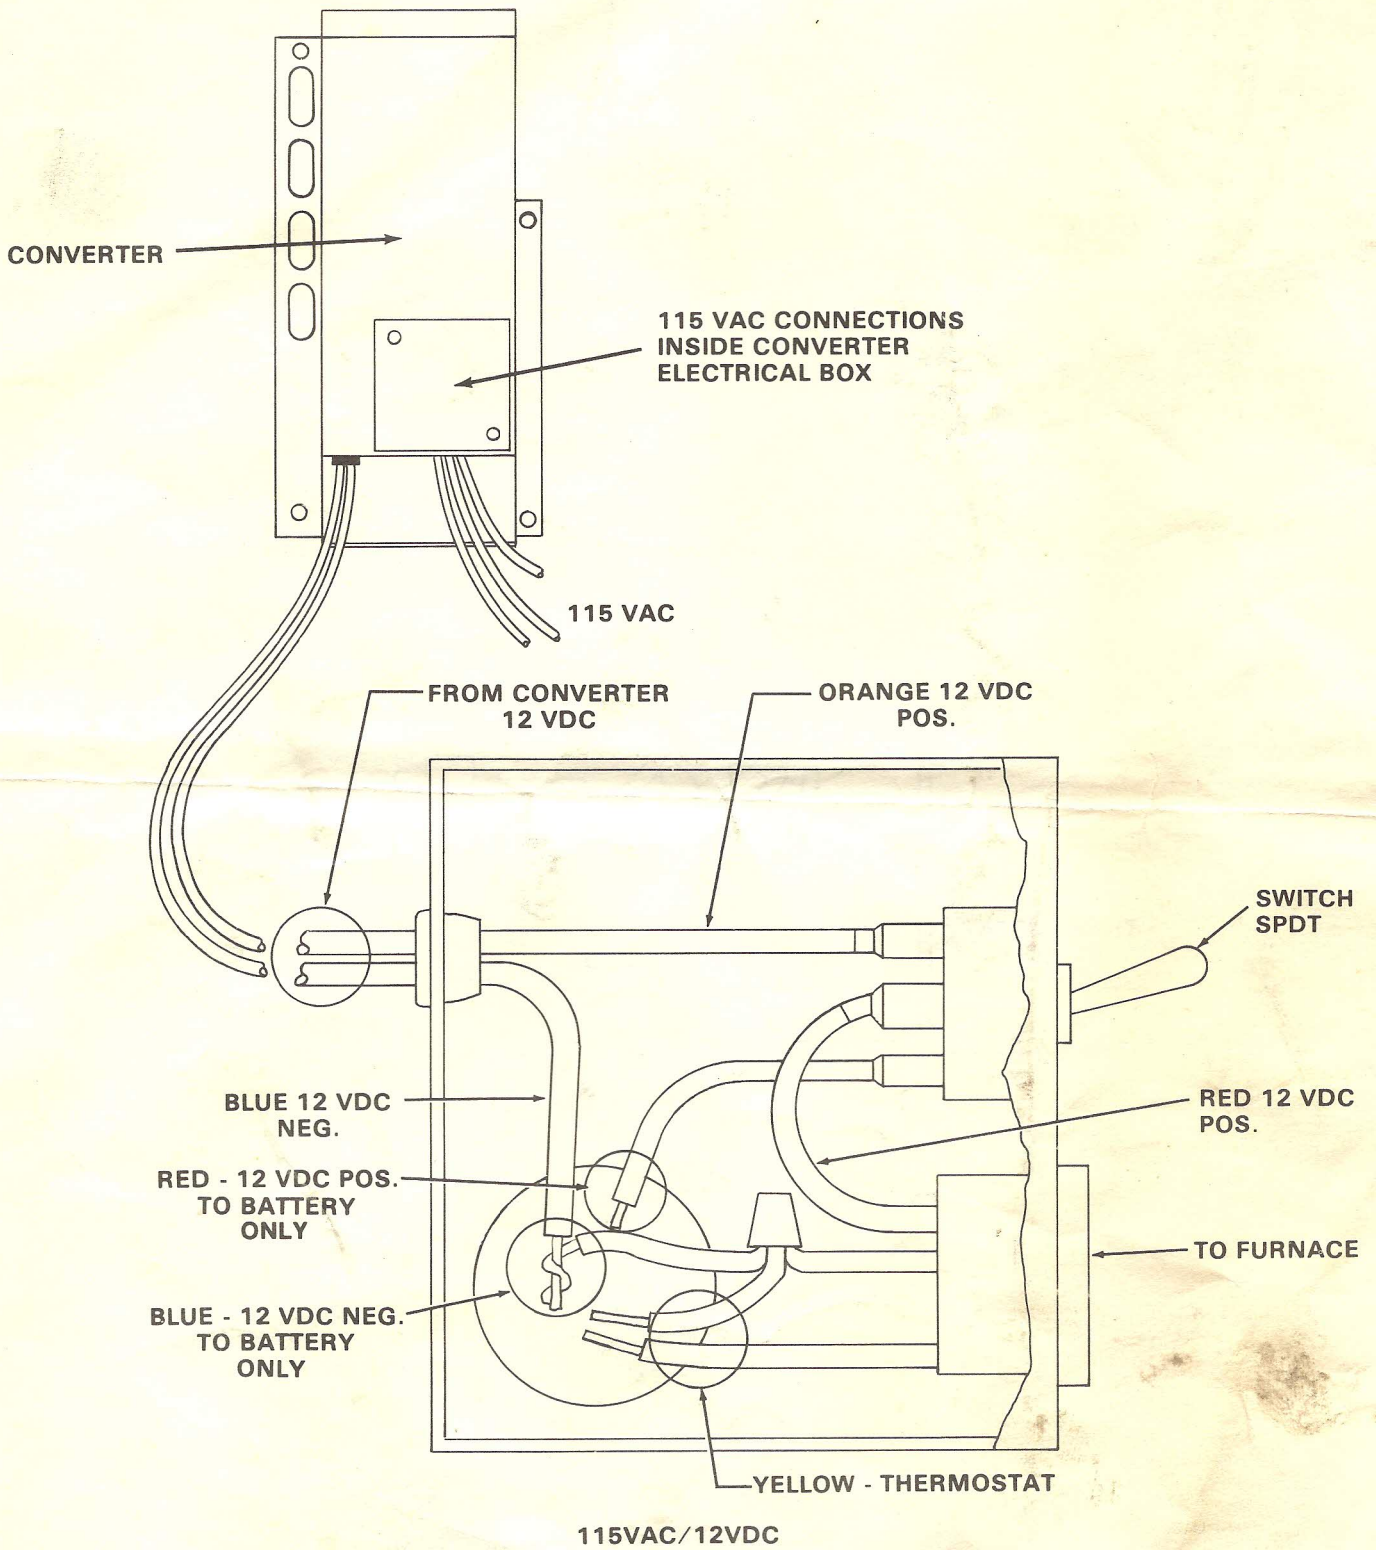

Figure 8
2. Insert all three wire connections inside converter wiring box and secure with electrical cable connector. See Fig. 8.